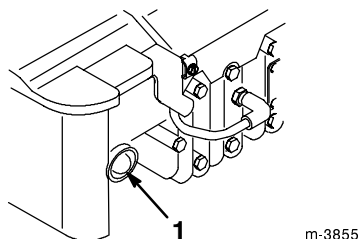

Figure 10
2. Push the primer three times, waiting two seconds between each push (Fig. 10).